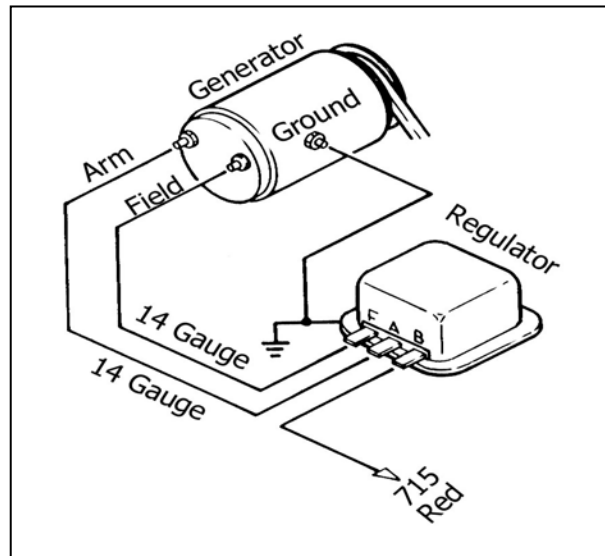

Figure 8.1 Generator Charging System
8.1.1 Generator Charging System. See Figure 8.1.
- A. Connect Generator ARMATURE terminal (A) to Voltage Regulator terminal A. Connect Generator FIELD terminal (F) to Voltage Regulator terminal F. Use 14-gauge wire (color optional).